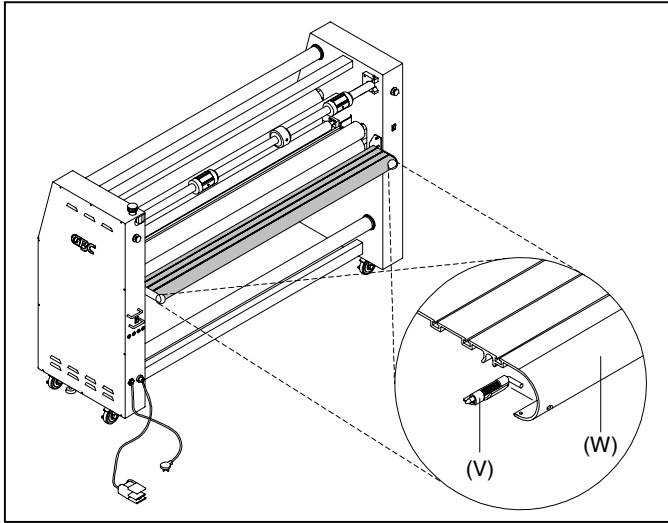

Fig. 17
V. REAR TABLE LATCHES: (Figure 17) Located under the left and right sides of the rear table.
W. REAR TABLE: (Figure 17) Provides a working surface when operating the machine from the rear. This table may also be lowered when webbing for roll to roll applications.